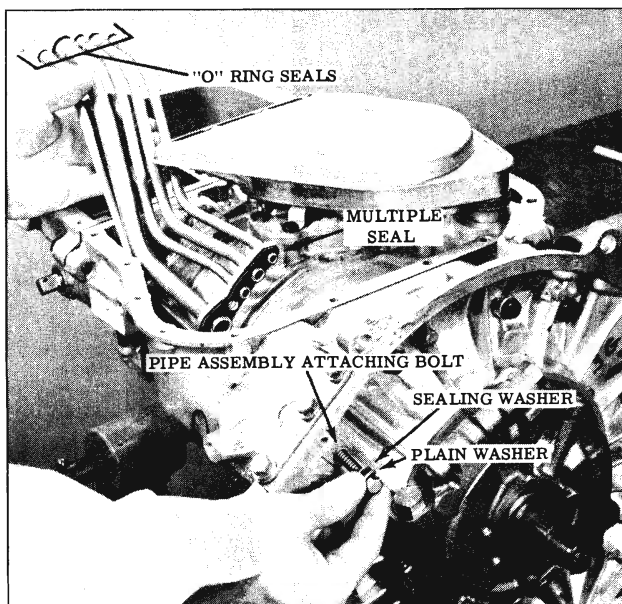

Fig. 3-124 Installing Pipe Assembly
18. Install pipe assembly into case through opening in case. (Fig. 3-124)